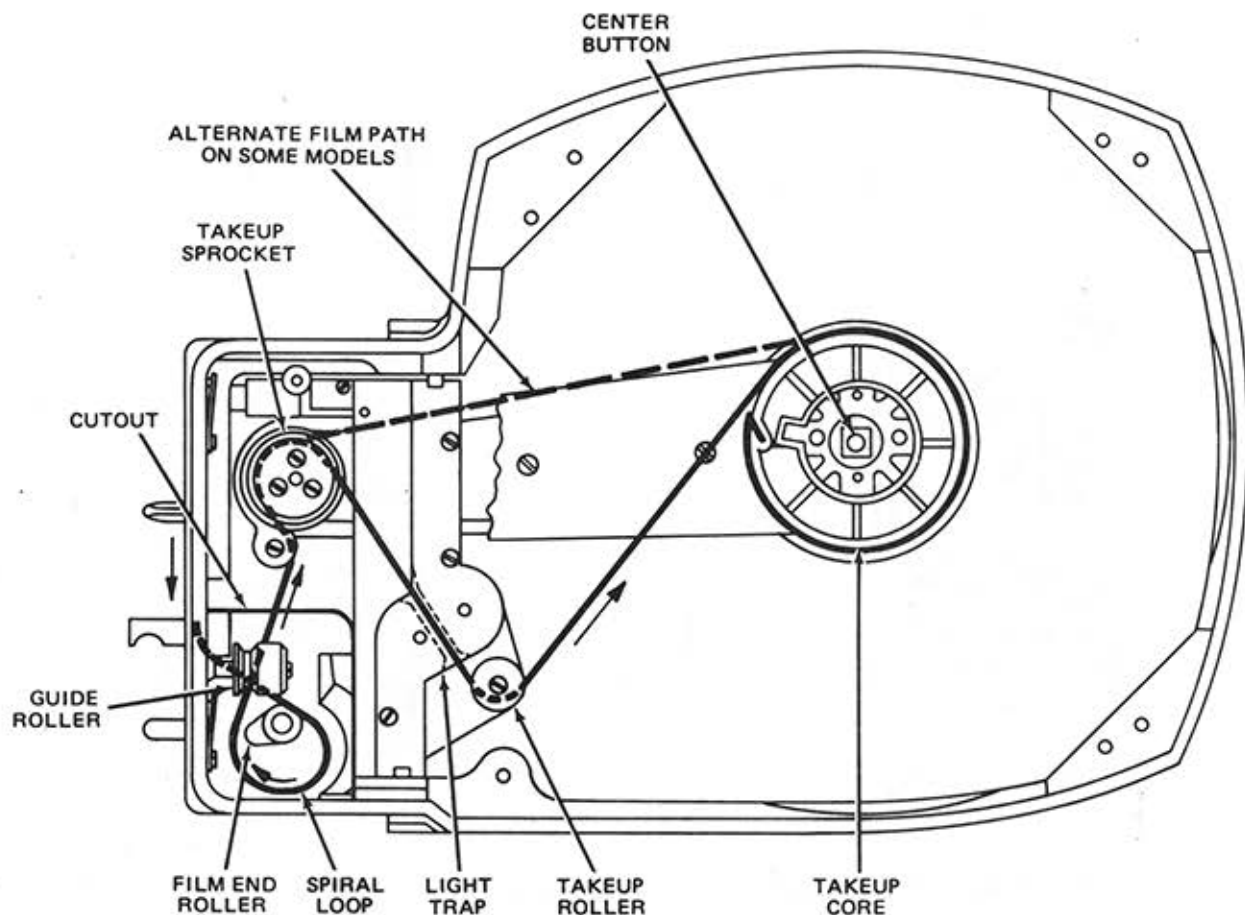
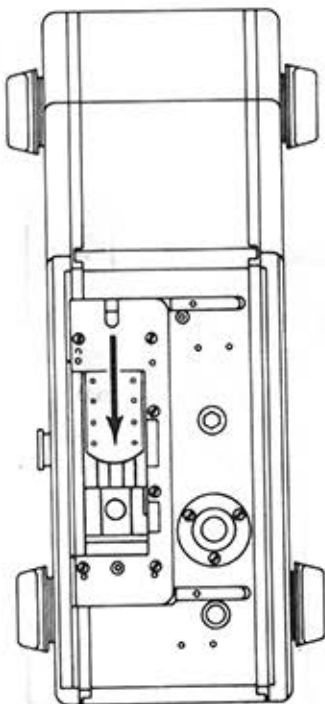

Figure 2-3. Threading Film on Takeup Side of Magazine
Figure 2-4. Film Projects Through Gate
9. Turn takeup sprocket (figure 2-3) clockwise until film appears in gate (figure 2-4).
11. Place supply side of magazine down and insert film into lower gate opening. Film will form a spiral loop as shown in figure 2-3.
12. Insert end of film into takeup sprocket (figure 2-3) and turn sprocket clockwise. Push film loop down over film end roller and under guide roller (figure 2-3).
13. Continue to turn takeup sprocket clockwise to advance end of film through light trap and under takeup roller (figure 2-3).
14. Wrap end of film around takeup core (figure 2-3). Check seating of core.